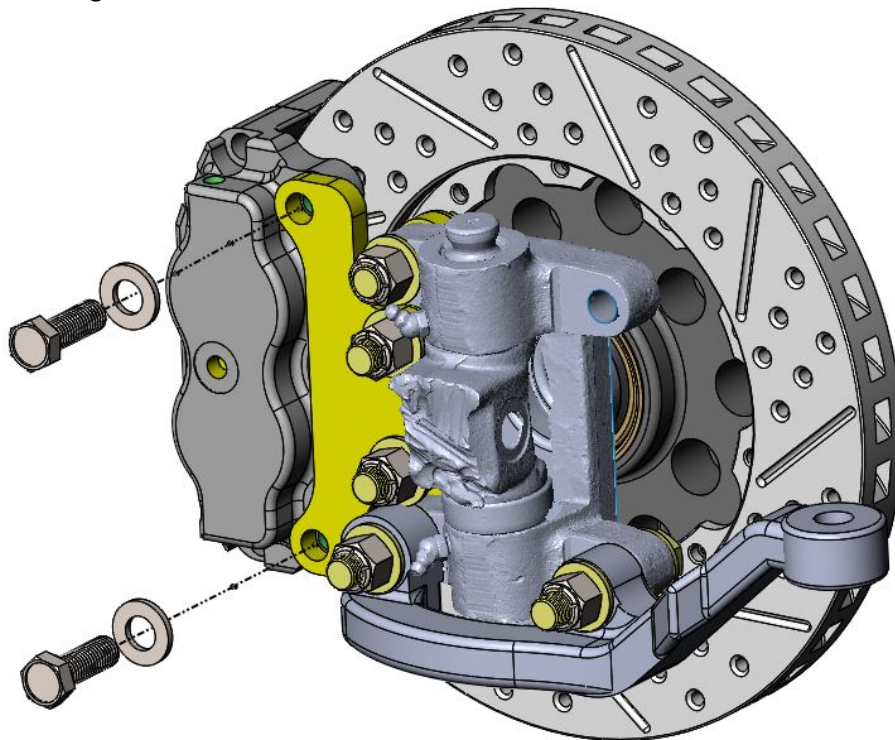

Figure 6 – Caliper Bolt Installation (Passenger Side Shown)
7. With the pads removed from the caliper, position the caliper over the brake rotor and secure using the supplied M12 x 35mm Hex Head Bolts. Snug the bolts only at this time as they may need to be removed at a later step. Refer to Figure 6 below for reference.